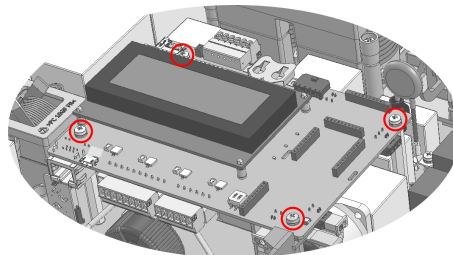

Figure 4: Screws on communication board (before replacement)
2. Remove the four screws (circled in *Figure 4*) that attach the communication board to the power board standoffs. Hold the stand offs to avoid their rotation with the screws.
1. Position the new board over the standoffs and fasten it using the four previously removed screws (see *Figure 4*).